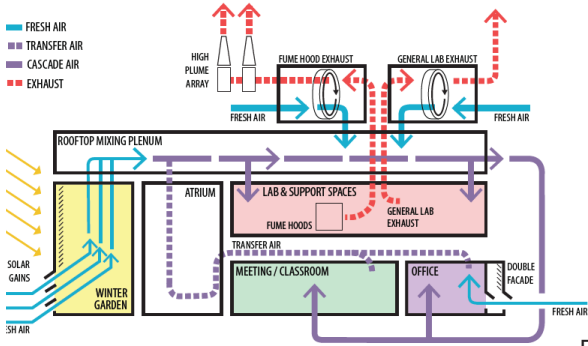

Figure.6
- The integrated energy model of the Science Commons is anticipated to result in a 40% reduction in energy consumption compared to a conventionally designed facility. Figure.6.